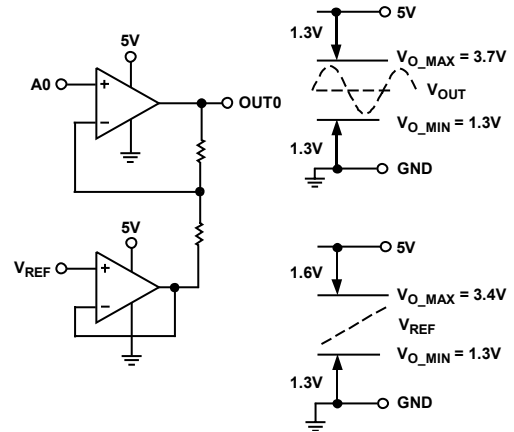

Figure 47. Output Compliance of Main Amplifier Channel and Ground Buffer
- On the AD8189, VREF cannot be tied to the most negative analog supply, VEE. The limits on reference voltage are (see Figure 47):